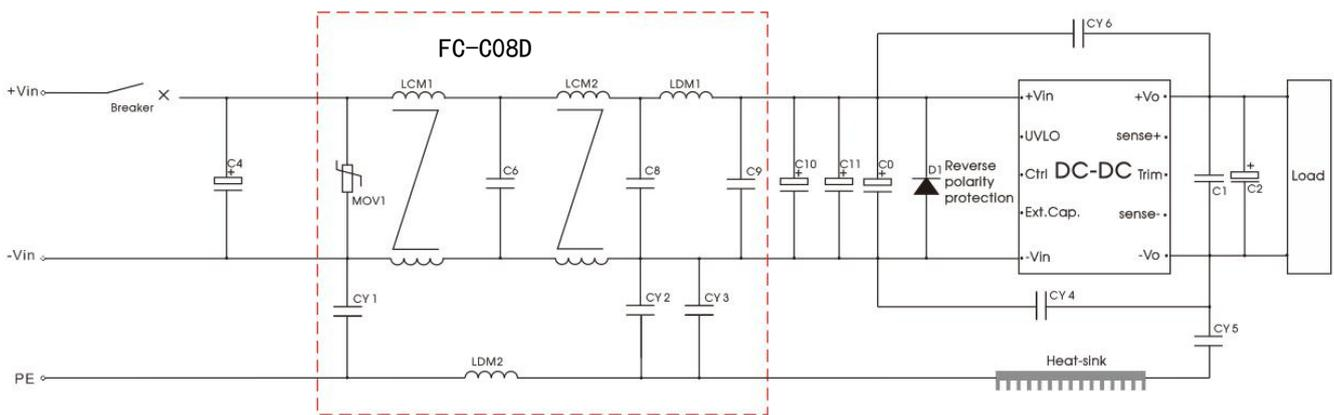

Fig.6
60Hz	300A/m (see Fig. 6 for recommended circuit)
2. The EMC filter part is composed of modular circuits. Please refer to Figure 6 for recommended circuits and parameters. Self-built circuits can also be used;